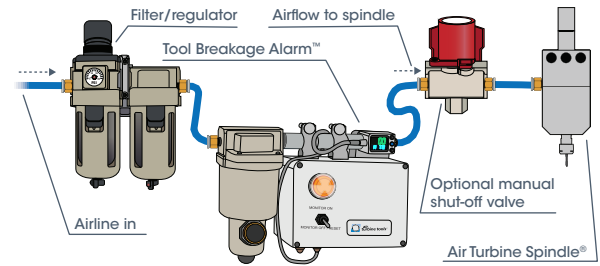

Figure 21: System monitor airline diagram showing the connection from a filter/regulator to the Tool Breakage Alarm™ and then to the Air Turbine Spindle®.
3. Connect the airline to the filter supplied with the spindle to the airline from your compressor. From the filter connect the air line into the Tool Breakage Alarm™ monitor inlet port as shown in **figure 21**.